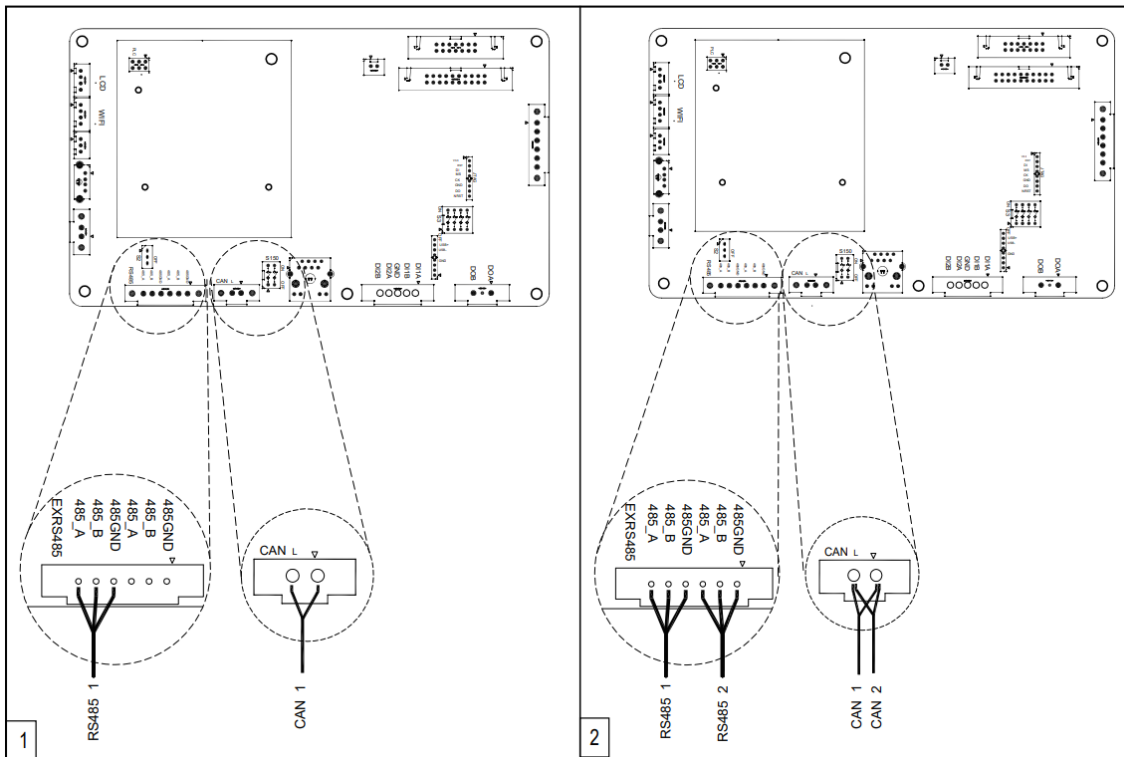

Figure 4-12 RS485/CAN Communication Cable Connection
1. Connect RS485 communication cables using the 6-pin terminal to 485 communication module, referring to Figure 4-12 (1, left) for a single inverter RS485 communication connection and Figure 4-12 (2, right) for network configuration.
2. Connect CAN communication cables using the 2-pin terminal to CAN communication module, referring to Figure 4-12 (1, left) for a single inverter CAN communication connection and Figure 4-12 (2, right) for network configuration.